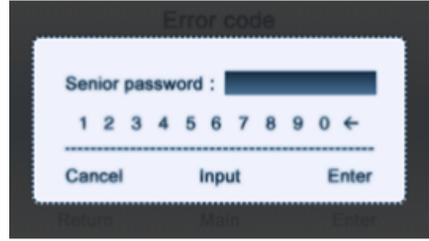

Figure 15
3. A common user can view the current faults and historic faults; a high-class user can view 10 historic faults, using the “downward” key and “upward” key. If a common user presses the “downward” key, a window as shown in Figure 15; a high-class user can enter his/her password to view ten historic faults.